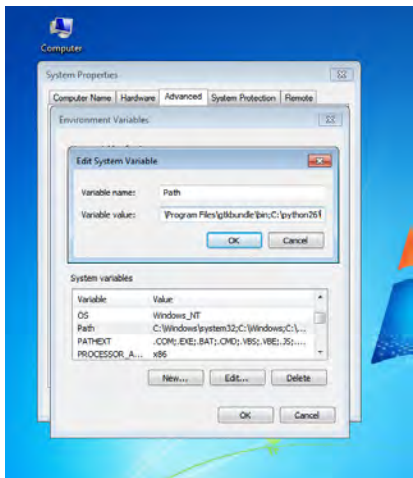

Figure 5-20. Adding PyGTK's bin directory to the Path variable
3. Add the *bin* directory to your computer's Path variable as follows (Figure 5-20):